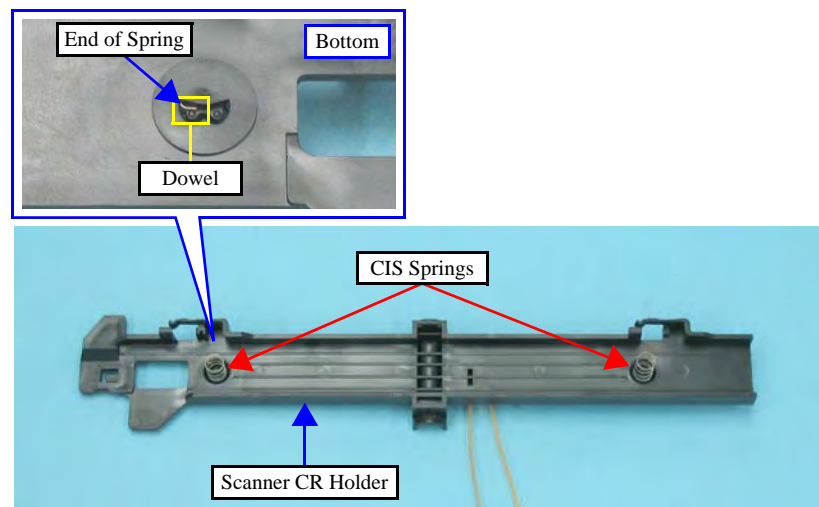

Figure 4-115. Removing the CIS Springs
- When installing the CIS Springs (x2), attach each end to their positioning tabs (x1 each) of the Scanner CR Holder as shown in Figure 4-115.